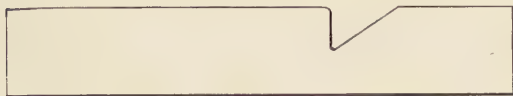
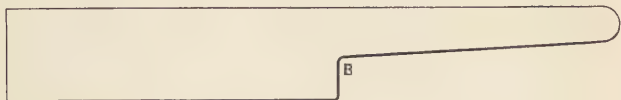

Fig.25
Fig.26
**Boring Tool.**—Next is the boring tool. After using the bevel set, Fig. 25, draw out as in Fig. 26. The lower view, Fig. 26, shows the boring tool after the lip
points *A* and *B*, Fig. 26, making it much stronger and less liable to crack in hardening.